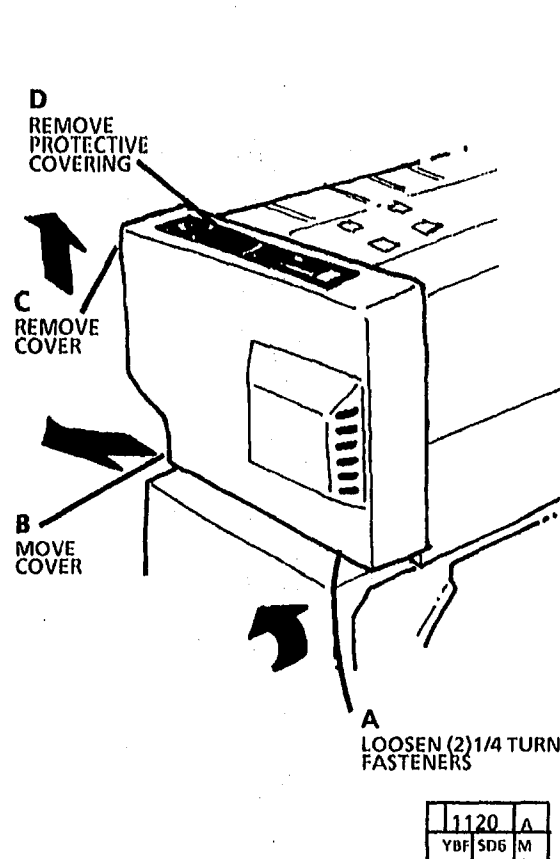
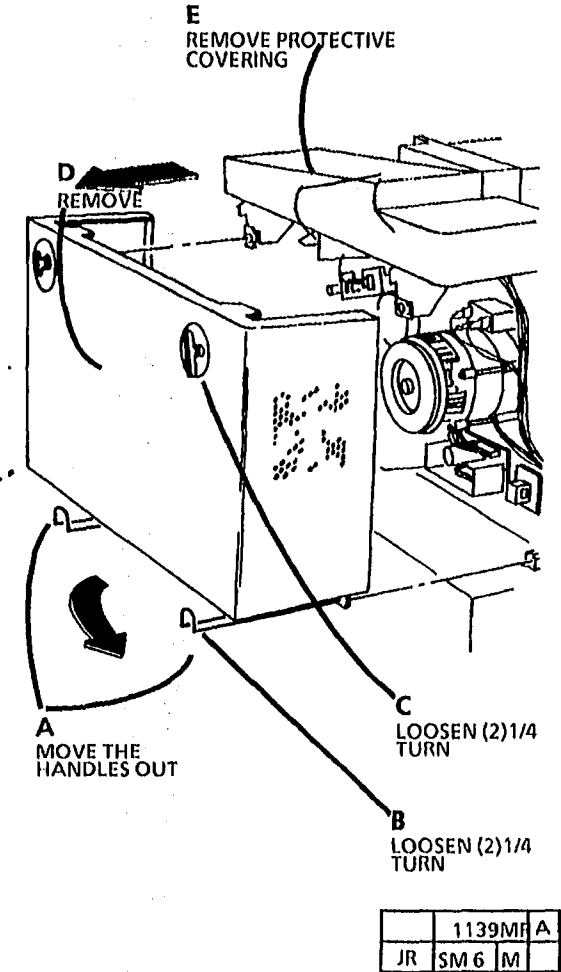

Figure 4. (2510) Removing the Right Side Cover
Figure 5. (2515) Removing the Right Side Cover
4. (2510, Figure 4; 2515, Figure 5): Remove the right side cover.